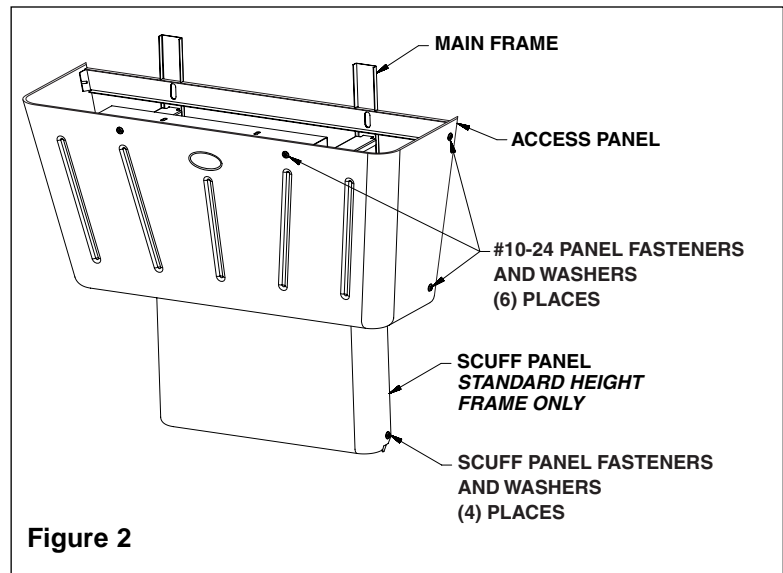

Figure 2
1. Using a T20 Torx key, remove the six #10-24 flat head Torx screws and #10 finish washers securing the access panel to the main frame, and remove the panel (Figure 2).
4. After testing is complete, reinstall panel to frame. Fasten panel with eight Torx-head screws provided (see Figure 2 on page 6).